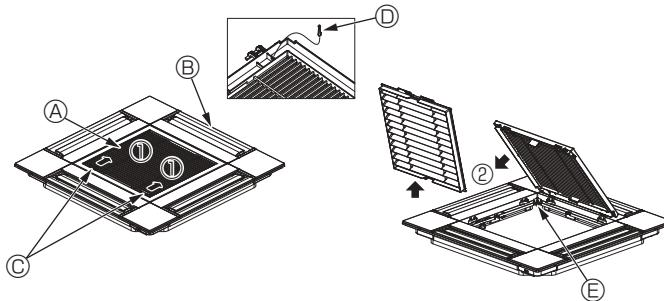

Fig. 10-3
10.3.1. Removing the intake grille (Fig. 10-3)
- Slide the levers in the direction indicated by the arrow ① to open the intake grille.
- With the intake grille in the "open" position, remove the hinge of the intake grille from the grille as indicated by the arrow ②.